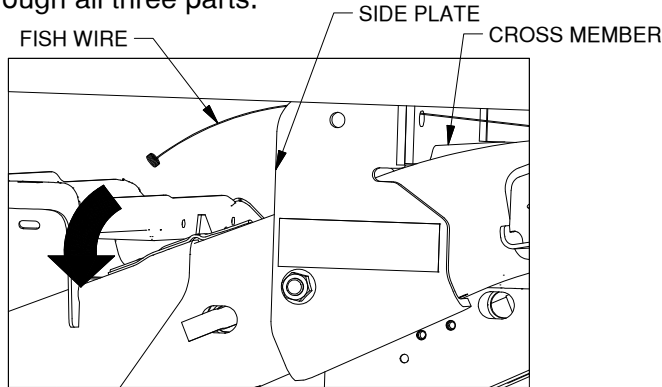

Figure F3: Looking at driver side frame.
5. **Install carriage bolt in side plate ear.** If the area directly in front of the side plate is not accessible, a fish wire is provided to allow the carriage bolt to be pulled up through the side plate. Feed the coil end of a fish wire through the holes in the front cross member parts, and the hole in the driver side plate. Move the end of the fish wire into an open space below the fuel tank and other obstacles, see Figure F3. Attach a 1/2" x 2" carriage bolt and pull the fish wire and bolt through all three parts.